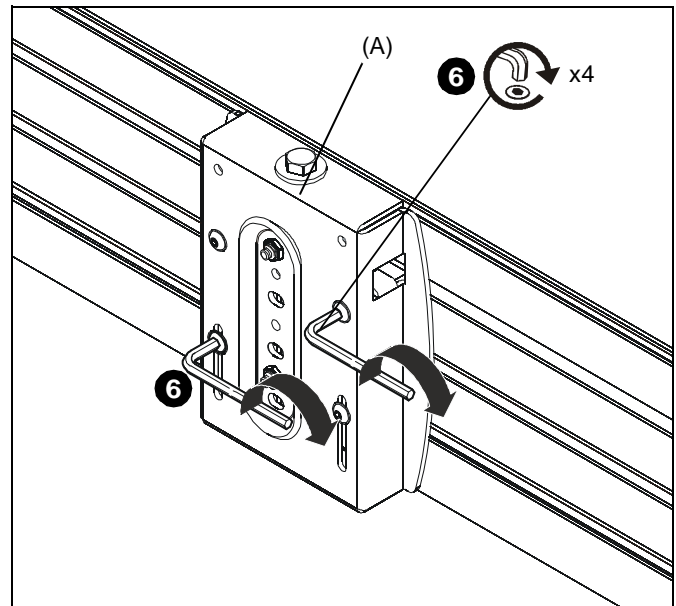

Figure 4
6. Tighten two upper and lower button head cap screws to secure wall bracket (A) to wall. (See Figure 4)